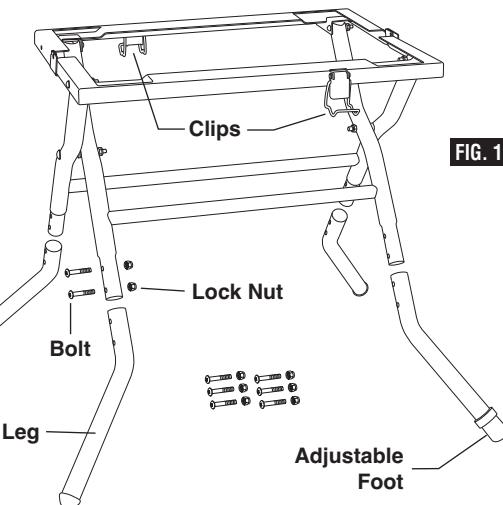

FIG. 1
1. Slide the legs into the stand (Fig. 1).